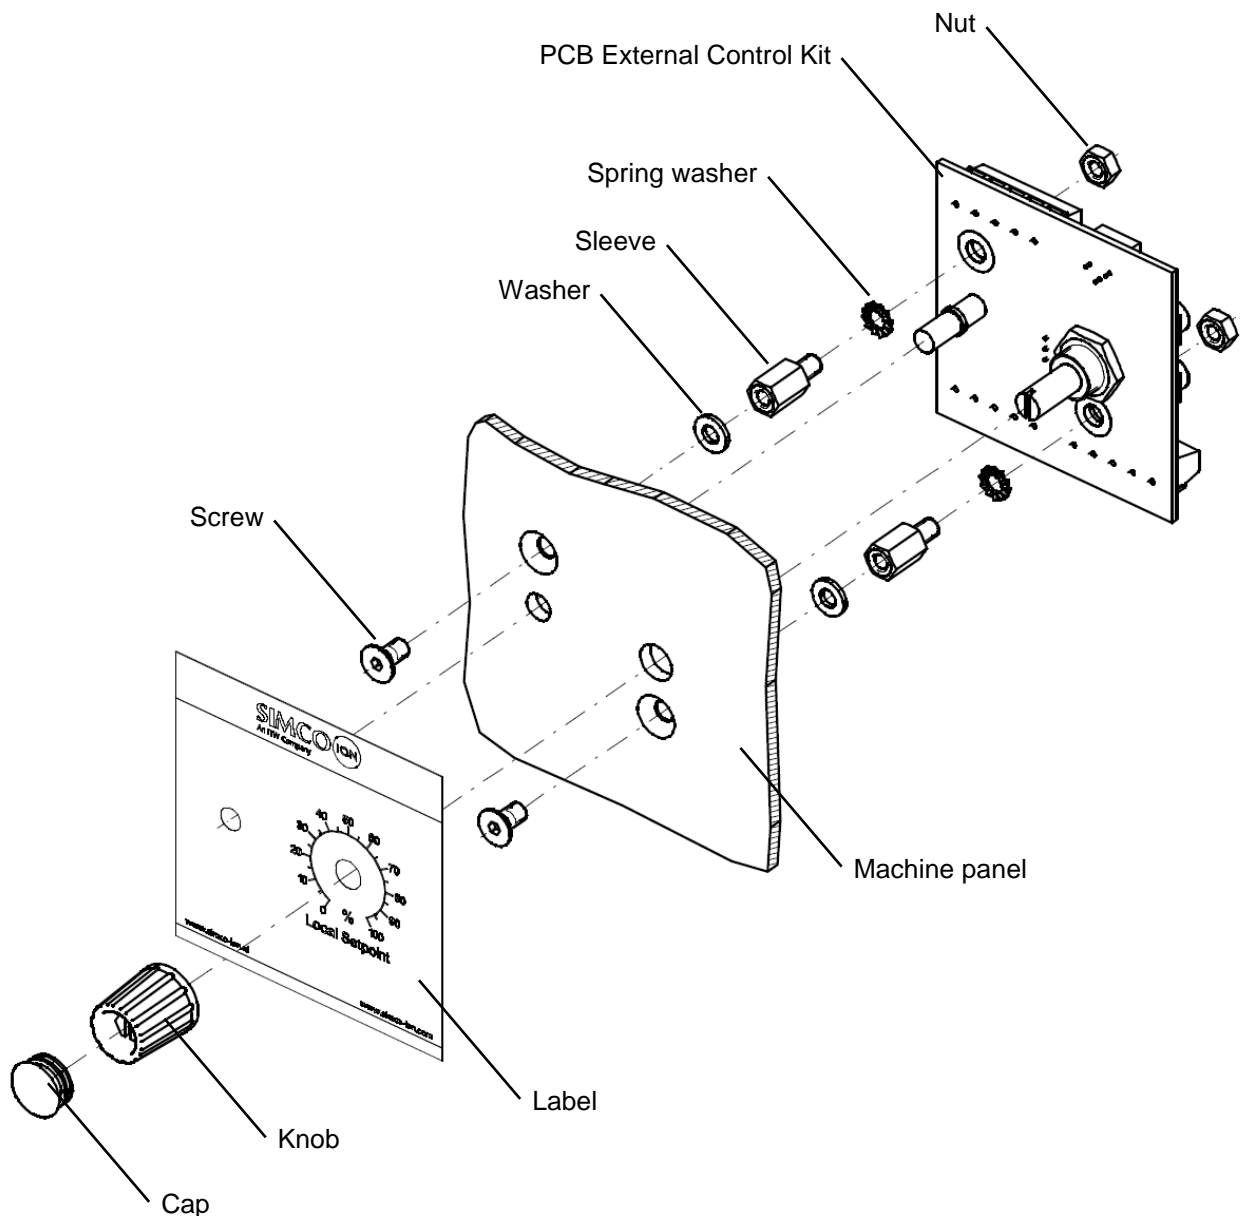

Fig. 4, assembly External Control Kit CMM Easy
- Assemble the Control Kit behind the panel with the fitting materials provided according to fig. 4. It is possible to wire the Control Kit before mounting it (see chapter 5.3)